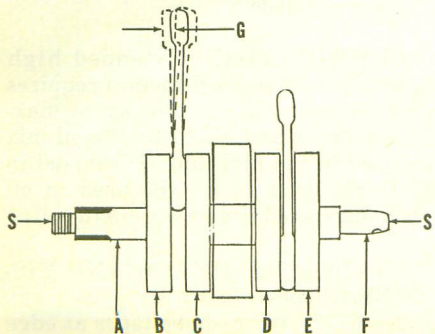

Fig. Y4-15—Refer to text for checking crankshaft assembly and wear limits.
**CONNECTING RODS AND CRANKSHAFT.** The crankcase halves must be separated to remove the crankshaft. Connecting rods, crankpins, rod bearings and the center main bearings are removed by pressing the crankshaft apart. The crankshaft should be disassembled ONLY if required tools are available to correctly check and align the reassembled crankshaft. If side shake (G—Fig. Y4-15) at piston pin end of connecting rod exceeds 2MM (0.08 in.), the connecting rod, crankpin and lower bearing should be renewed. Shake (G) should be 0.8-1.0MM (0.032-0.039 in.). Side clearance of connecting rod between the crankshaft counter weights can be measured with a feeler gage. Side clearance should be 0.1-0.3MM
(0.0039-0.012 in.). With crankshaft supported between lathe centers (S—Fig. Y4-15), maximum eccentricity when measured with dial indicator at points (A, B, C, D, E, & F) should not exceed 0.0008 inch.
Distance from outer surface of crankwheel (B—Fig. Y4-15) to outer surface of crankwheel (E) should be 139.8-140.0MM (5.504-5.512 in.). Distance